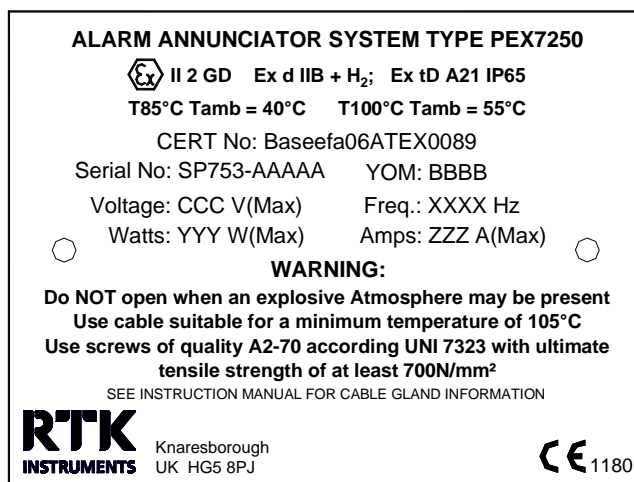

Figure 1: Certification label for option A.
- Certification label (Figures 1 -3) showing all relevant certification information dependant on which application is required.